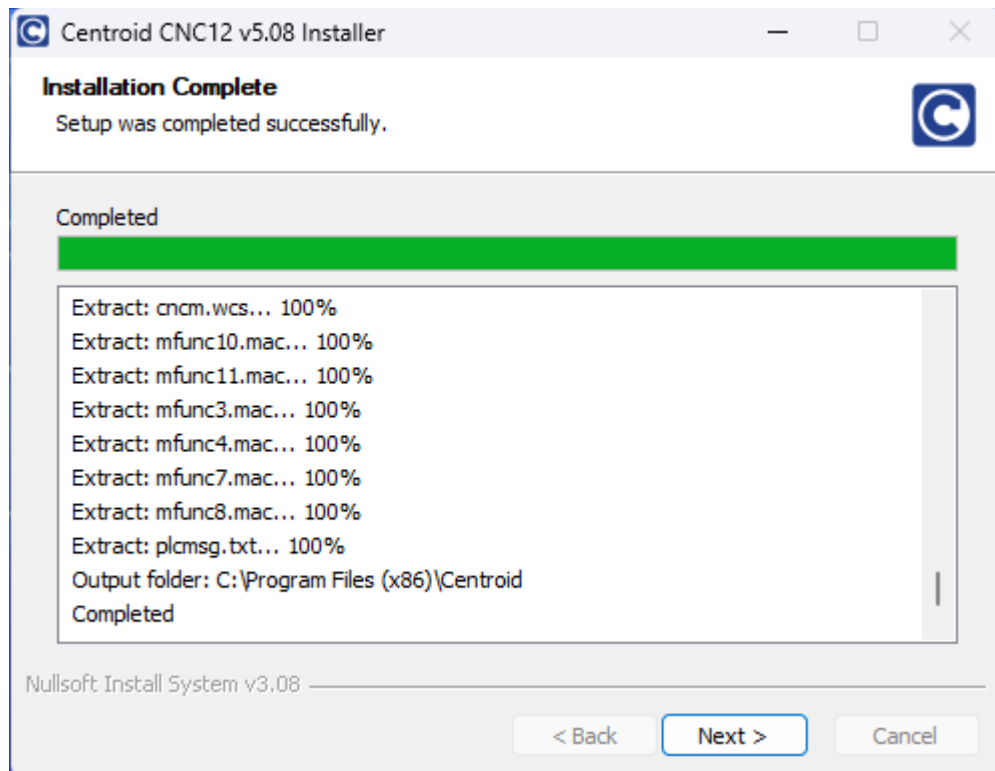

Figure 3.2.7
11. Installation. The CNC12 files will now be installed, and the “Installation Complete” screen (Figure 3.2.7) should appear when it finishes. Click “Next” to continue.